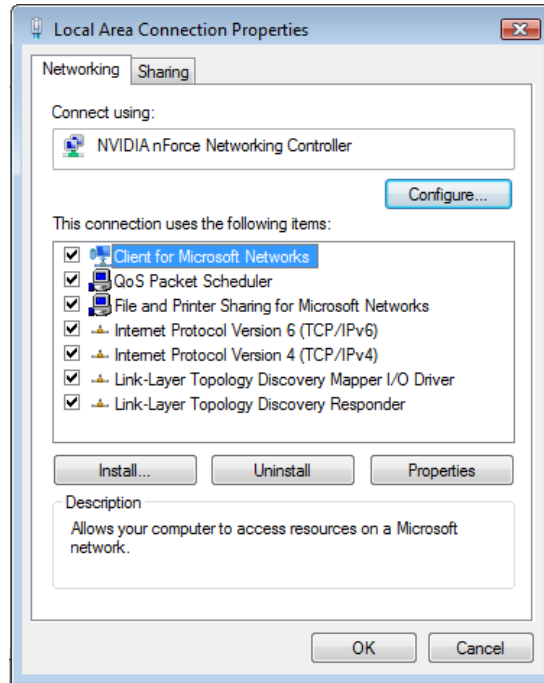

Fig. 4: Selecting the Internet Protocol
4. Right-click **Local Area Connection** and then click **Properties** from the drop-down menu (Fig. 4).